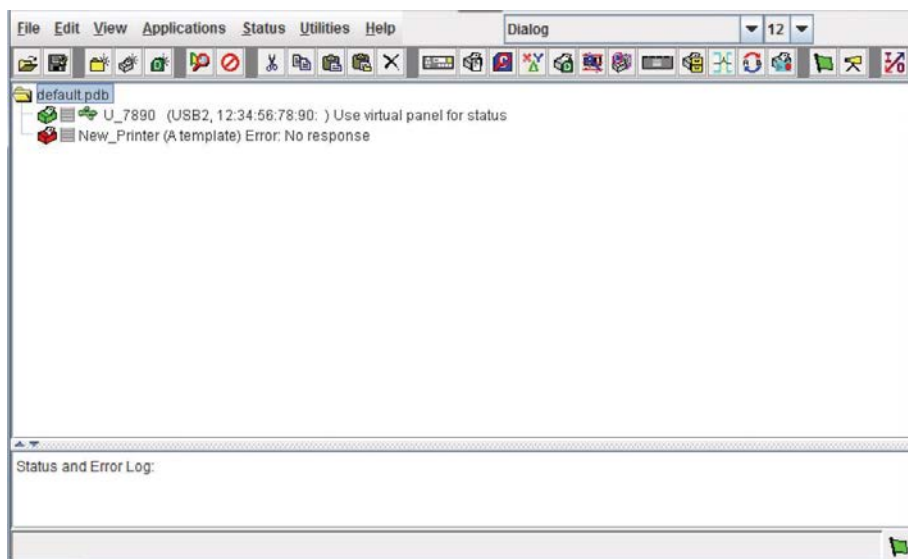

Figure 2 Printer Database Main Window with USB Connection
3. If your printer has USB connected to the PC, you will see the USB printer device. See Figure 2.